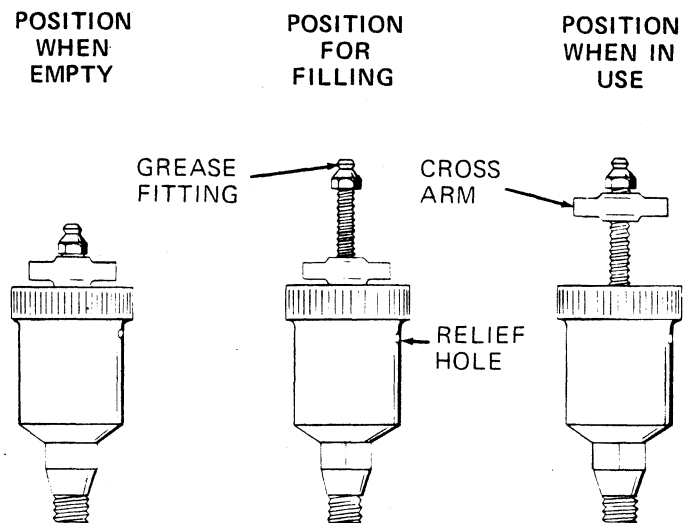

Figure 4. Automatic Lubricating Grease Cup
Before removing the seal assembly, turn the cross arm on the seal grease cup (13) clockwise until it rests against the cover (see figure 4). This will prevent the grease in the cup from escaping after the seal is removed.
Before starting the pump, fill the grease cup through the grease fitting with a good grade of No. 2 pressure gun grease until grease escapes from the relief hole. Turn the grease cup arm counterclockwise until it is at the top of the stem; this will release the spring to apply grease to the seal (see figure 4).